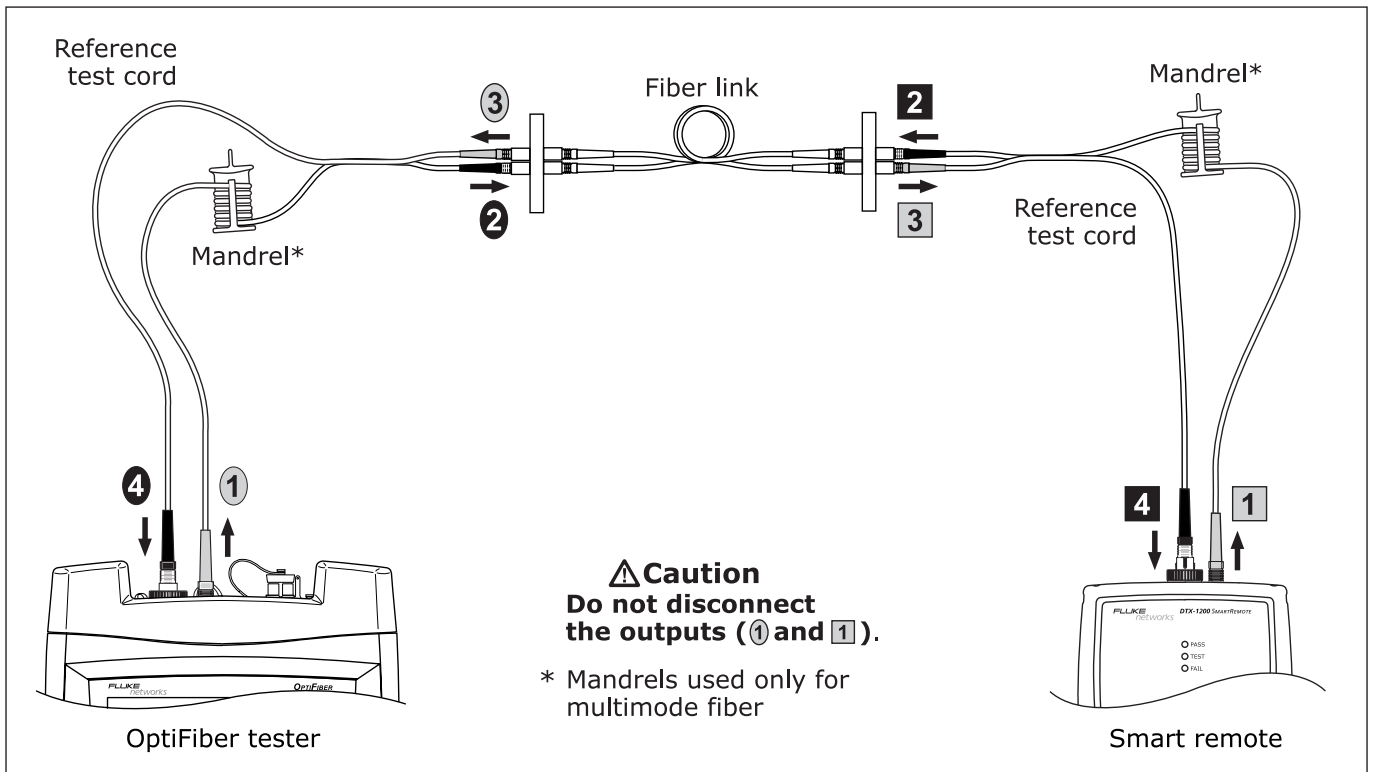

Figure 7-7. Smart Remote Mode Test Connections (1 Jumper Method)
- 3 Clean the connectors on the cabling to be tested; then connect the tester to the cabling as shown in Figure 7-7.